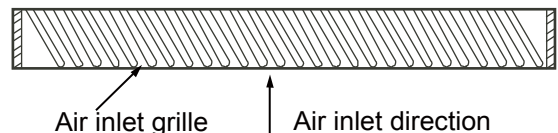

Figure 2.4
2. There should be no angle between the air inlet grille and the direction of the air inlet, otherwise the noise level will increase. For example, the method used to create the air inlet grille in Figure 2.4 is wrong.